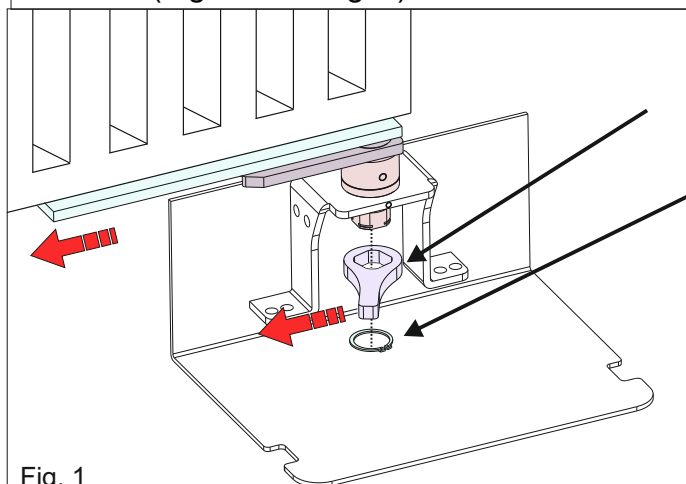
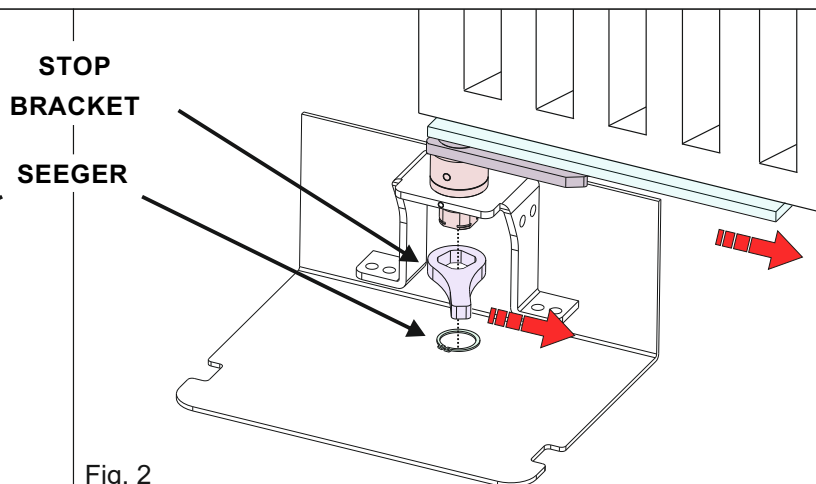

Fig. 1
Fig. 2
1. Insert the stop bracket into the box shaft, **making sure it is oriented in the same direction of the leaf support bracket**, then lock it with the seeger (Fig. 1 and Fig. 2)